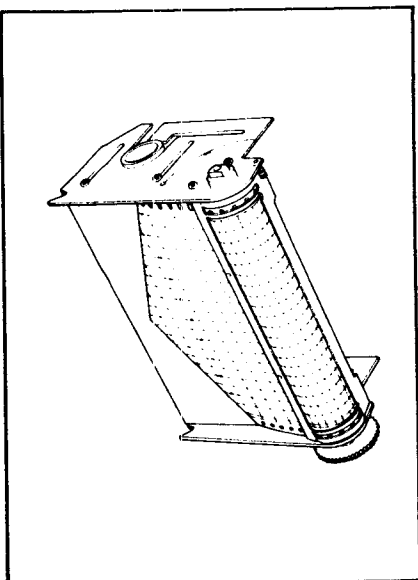

Figure 3-8.
- (3) Insert the roll chart cardboard roller into the instrument as shown in Figure 3-8 with the round drive hole of the chart paper set at the right side.
- (4) Pull out the end of the chart and thread chart under the chartguide roller shaft, engage sprockets and holes.
- (5) Reinstall the chart compartment in the original position in the recorder frame.
- (6) Confirm that the chart can be fed normally by turning the rightmost gear manually.